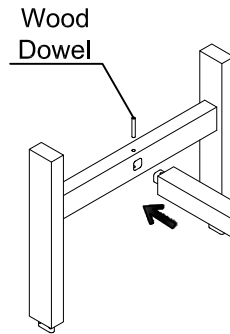

Fig 3
3. Put some glue around mortise of leg support, insert into leg. Put some glue around the wood dowel, insert into support of leg (Fig. 3)